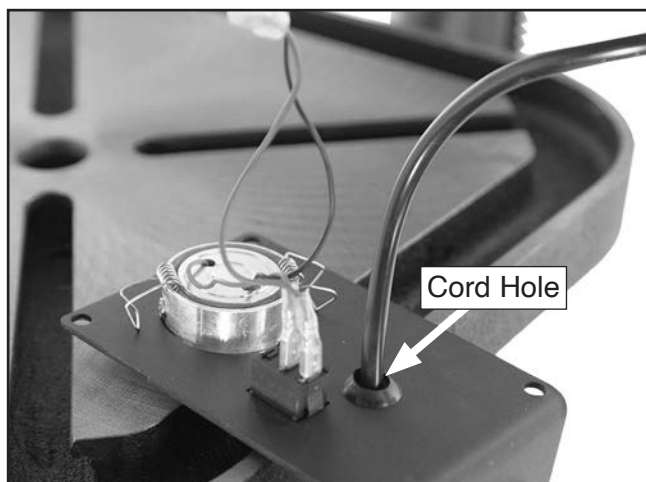

Figure 85. Laser module electrical box cord fed through LED assembly hole.
16. Feed laser module electrical box cord through hole in new LED assembly (see **Figure 85**).